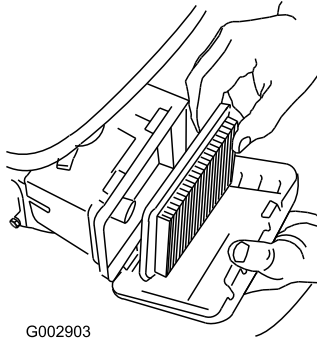

Figure 18
3. Remove the air filter (Figure 18).